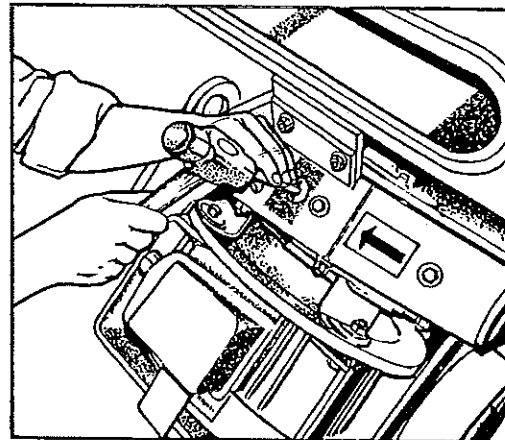

Figure 4. Drive Wheel Blade into Center of Wheel. Remove Blade.
The assembly of blast wheel rotating parts is shown in Figure 4. It is important to assure that these parts are maintained in a condition of accurate rotating balance to prevent excessive vibration of machine parts, to avoid high stresses on the blast wheel and its attached parts, and also to assure long bearing life in the unit bearing assembly.
- g. Remove inspection plate on top of wheel housing. Using a driftpin or punch drive the wheel blade into center of wheel (FIG. 4). Remove blade. Rotate wheel 180° and remove opposite blade. Repeat procedure until all blades are removed.